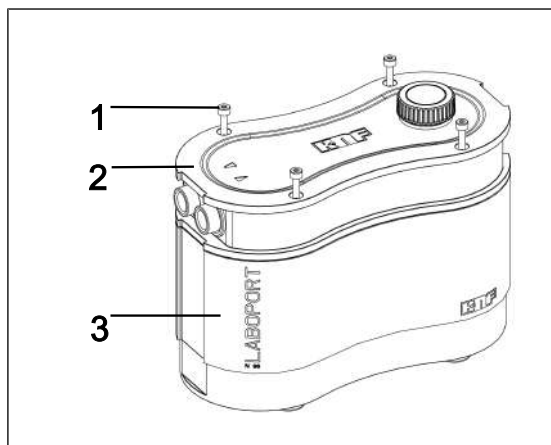
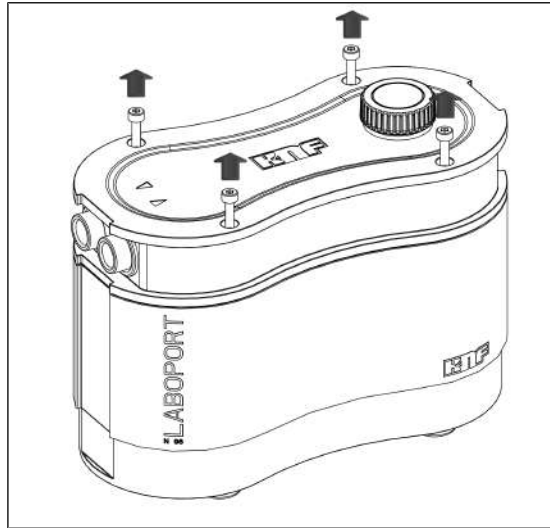

Fig. 6: Opening the housing
Fig.7: Loosening housing screws
1. Loosen the four housing screws (Fig. 6/1) und entnehmen Sie diese aus dem Gehäusedeckel (2) (see Fig. 7). Store the screws for later reassembly.
1. Carefully place the housing cover (Fig. 6/2) on the pump housing (3) (see Fig. 11).
- i** In doing so, make certain that the cables within the pump housing (3) and the circuit board are not damaged.